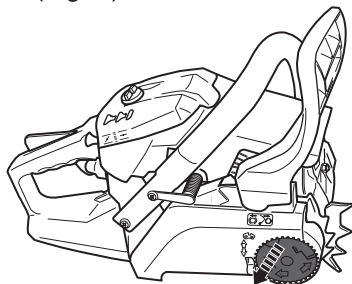

Fig. 1
- > Use only the guide bar (4) and saw chain (3) according to the technical data of the product.
- > Place the product on a suitable flat surface with the cover (8) facing upwards.
**WARNING!** Before removing, ensure the front guard/chain brake (2) is in the disengaged position (see section “In more Detail - Chain brake”). If in the engaged position, pull the front guard/chain brake backwards until it ‘clicks’ into position.
- > Fold out the locking wheel (6) (Fig. 1).